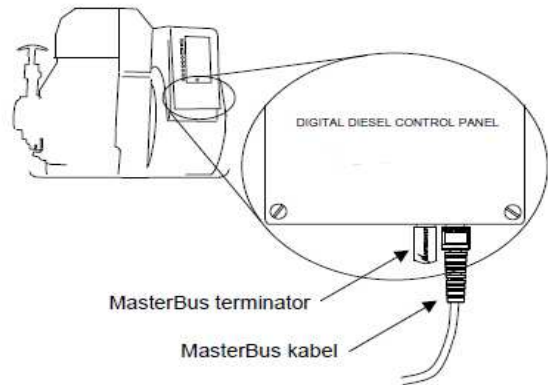

Figure 15
- 1 See figure 15 Insert a MasterBus terminating device into one of both communication ports (it doesn't matter which one) of the Digital Diesel Control Panel on the generating set. Insert the communication cable in the other communication port.